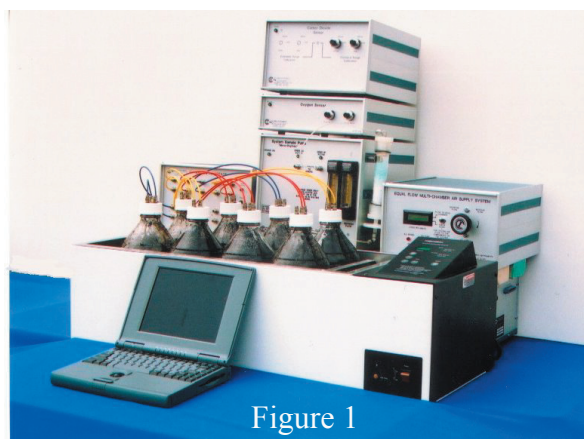

Figure 1
**Introduction:** The Micro-Oxymax Respirometer (Figure 1) measures the production and/or consumption of many gases simultaneously. Data is typically reported as a percentage concentration of each individual gas with respect to the given sample. These percentages are used to calculate other data such as rates and cumulative gas production / consumption. However, the measurement of these simple percentages becomes surprisingly complex when working with such small volumes and concentration changes. The Micro-Oxymax boasts a maximum sensitivity of  $0.2\mu\text{L}$  / hour rate calculation. Automatically, one begins to think about the accuracy of the gas sensors and their ability to accurately measure such small changes in concentration. Though the sensors do play an important role, what really makes the system this sensitive is the "Closed Loop Measurement Method." This can be further enhanced by adding certain options that are specific for the experiment. The following article will describe, in simple terms, how the Closed Loop Measurement Method works, describe the various techniques used by the different gas sensors employed in the Micro-Oxymax System, and break down the optional components for tailoring the system for specific experiments.